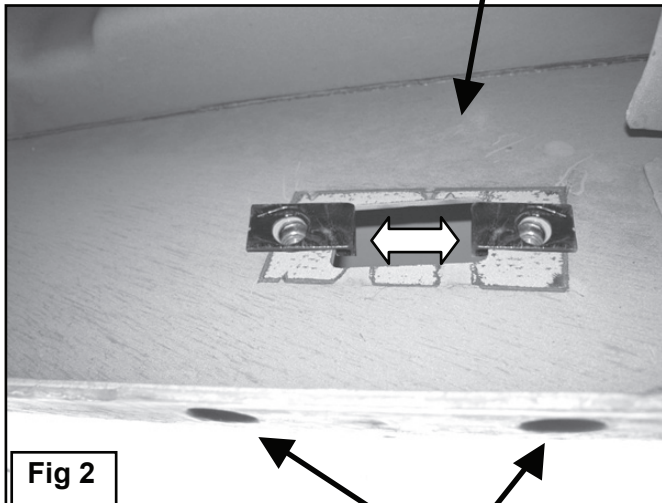

Fig 2
Slide (1) 8mm Clip Nut into the rectangular opening with the nut towards the inside. Line up the threaded nut on the clip with the round hole, (Figure 2). Repeat to install 2nd 8mm Clip Nut in remaining hole location.